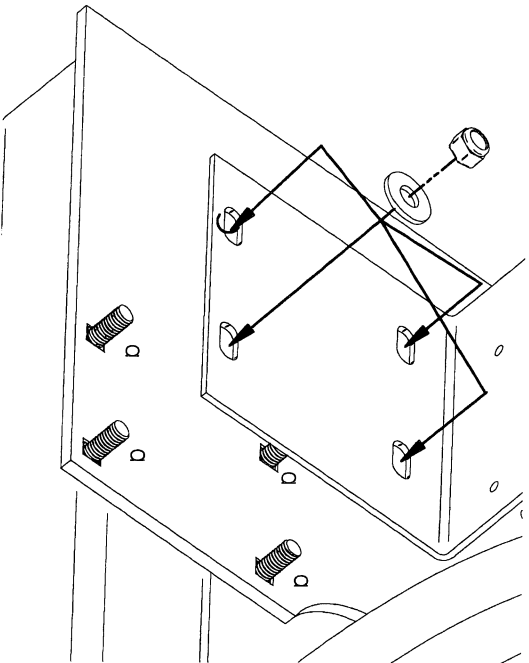

Figure 1.1
Before fastening A into B, be certain that the 'needle' bearing is in place with support plate/see figure 1.1/.
B. See figure 1.1/ and fasten using the provided 7/16" hardware/see figures 1.2 and 1.3/. Using the slotted holes in the upper flange, adjust the Aldrum assm./ accordingly so that it is properly aligned with part B. See next page.
1x3/8" bolts/d are fed from behind and fasten the motor plate as illustrated in figure 1.1 and 1.2.